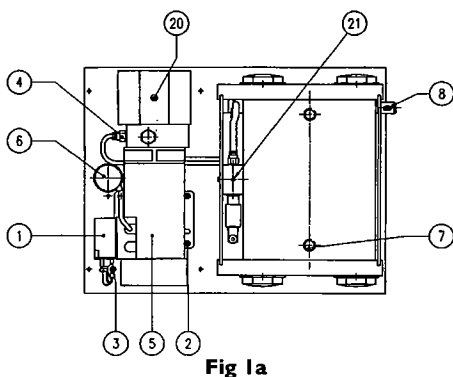

Fig 1a
- 4.12 Undo the four screws of the motor wiring cover (1) Fig. 1a and disconnect all internal wiring. Ensure that you note how the wiring was connected.